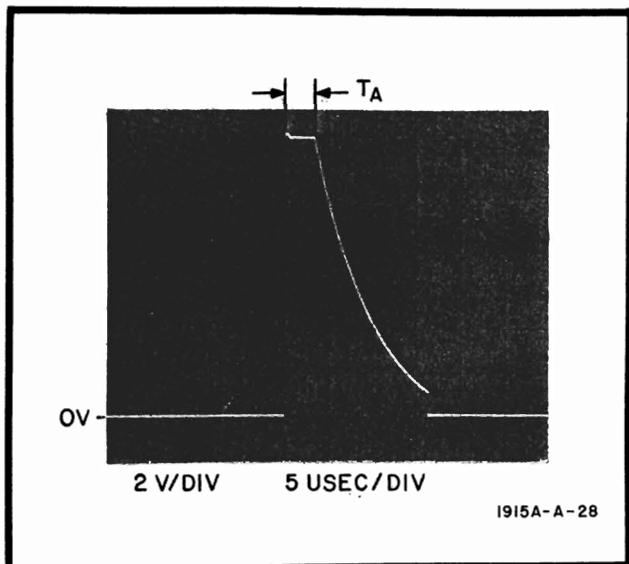

Figure 5-3. Positive Overload Test Pulse
- f. Using monitor oscilloscope observe Model 1915A output. Output should be similar to that shown in Figure 5-3. Limit: T_A should be less than 5 usec.